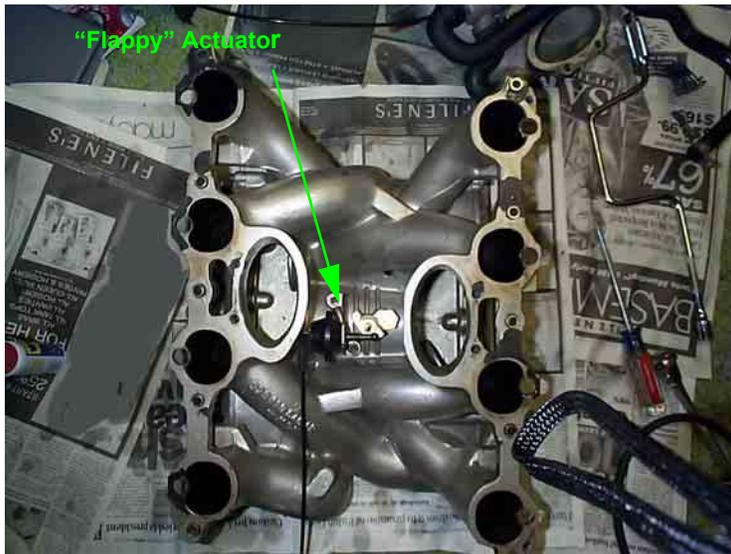

FIGURE 17
- g. Vacuum actuator for the dual resonance intake flap. See *Figure 17*.